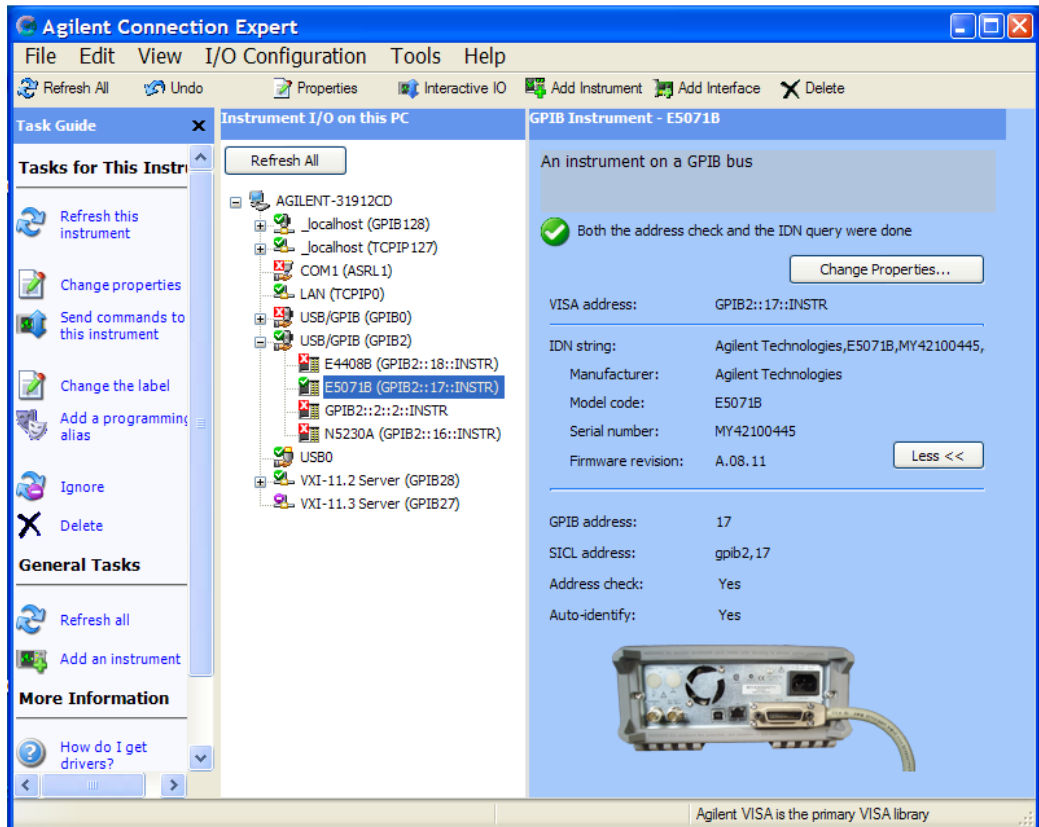

Figure 20 Agilent Connection Expert
- 8 Ensure that the application detects the spectrum analyzer connection to the oscilloscope. Else, click on the Connect... button in the Spectrum Analyzer External Instruments group. A pop-up box will appear where you can enter either the VISA/SICL address or the IP address. Enter the information and click the Verify button, followed by the Done button to close this box. The VISA/SICL address or the IP address can be obtained from the IO Control Connection Expert application, as shown in Figure 20.